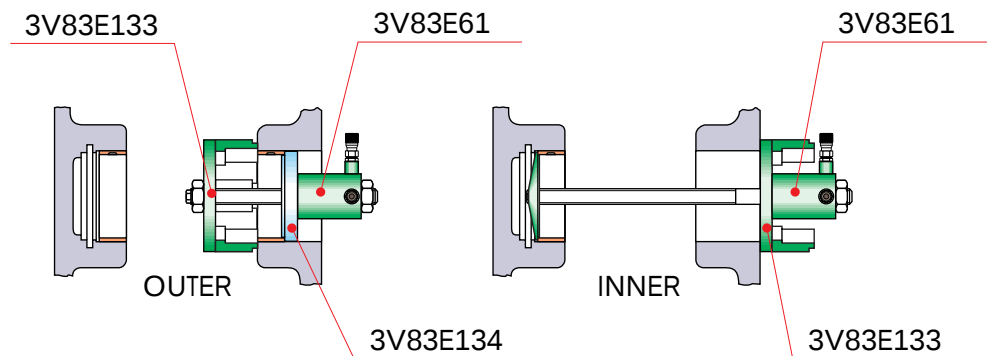

Fig 10-7
- 2** Assemble the removing device 32.13T01 (834053) according to Fig 10-7.